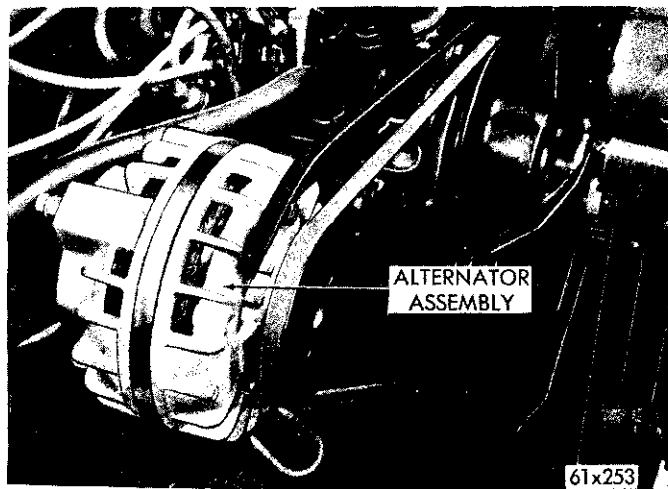
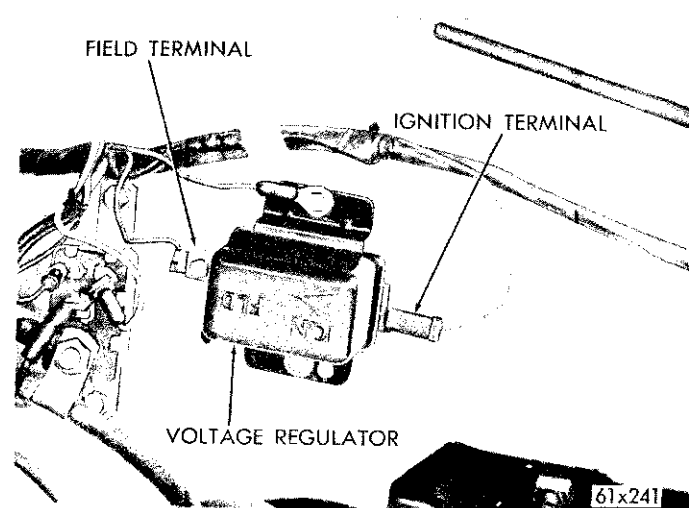

Fig. 14—Alternator Installed
Fig. 15—Voltage Regulator Installed
The alternator (Fig. 14) is fundamentally an alternating current generator, with six (6) built-in silicon rectifiers, that convert the alternating current into direct current, which is available at the "output" "BAT" terminal. A voltage regulator (Fig. 15) is used in the field circuit to limit the output voltage.